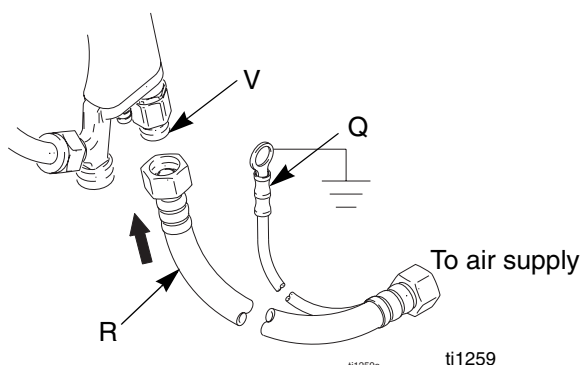

FIG. 2
1. Connect the Graco Grounded Air Supply Hose (R) between the air supply line and the gun's air inlet (V) (FIG. 2). The gun air inlet fitting has a left-hand thread. Connect the air supply hose ground wire (Q) to a true earth ground.